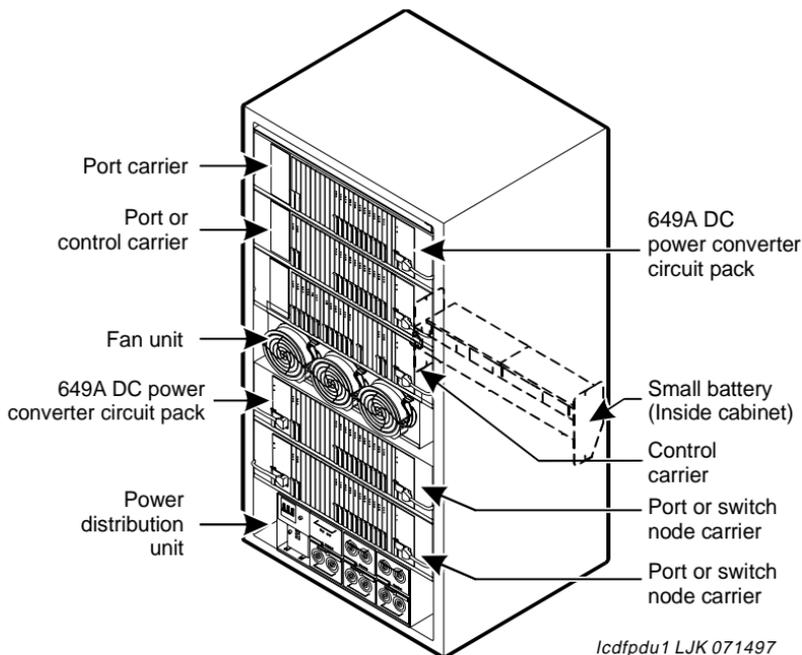

Figure 29. Power Distribution in MCC
Figure 29 shows the power distribution in some MCCs with short term battery holdover (small battery). In r systems, the power distribution cables are on the right hand side of the cabinet only. This is because the 649A DC power converter circuit pack is located on the right side of the carrier. Switch node (SN) carriers require two 649As and 2 cables.